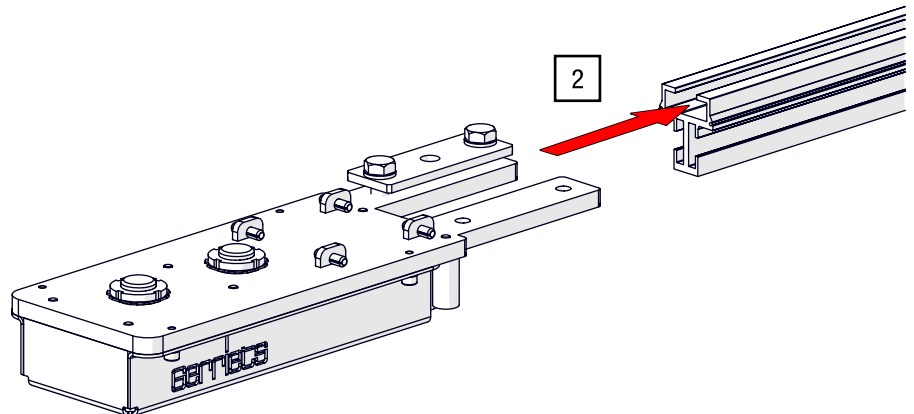

Fig. 59: Crossover unit – Slide overlap profile onto the deflection unit
2. Slide the transition profile onto the corresponding guide the deflection units (see Fig. 59).